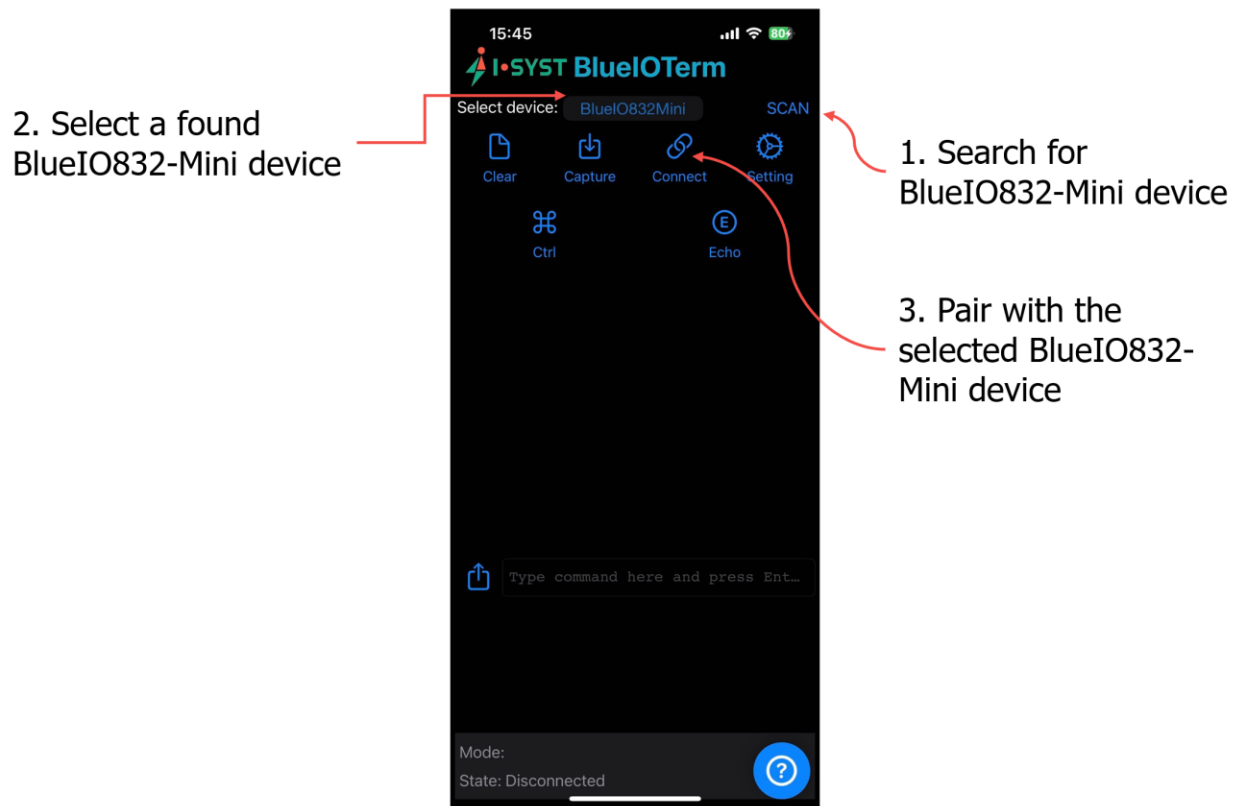

Fig. 9. Main user interface of BlueIOTerm. Search for and connect to a BlueIO832Mini with BlueIOTerm.
- (ii) Open the BlueIOTerm mobile app. The main user interface is shown in Fig. 9.
- (iii) Fig. 9 shows the three steps for connecting the app with a BlueIO832Mini device.